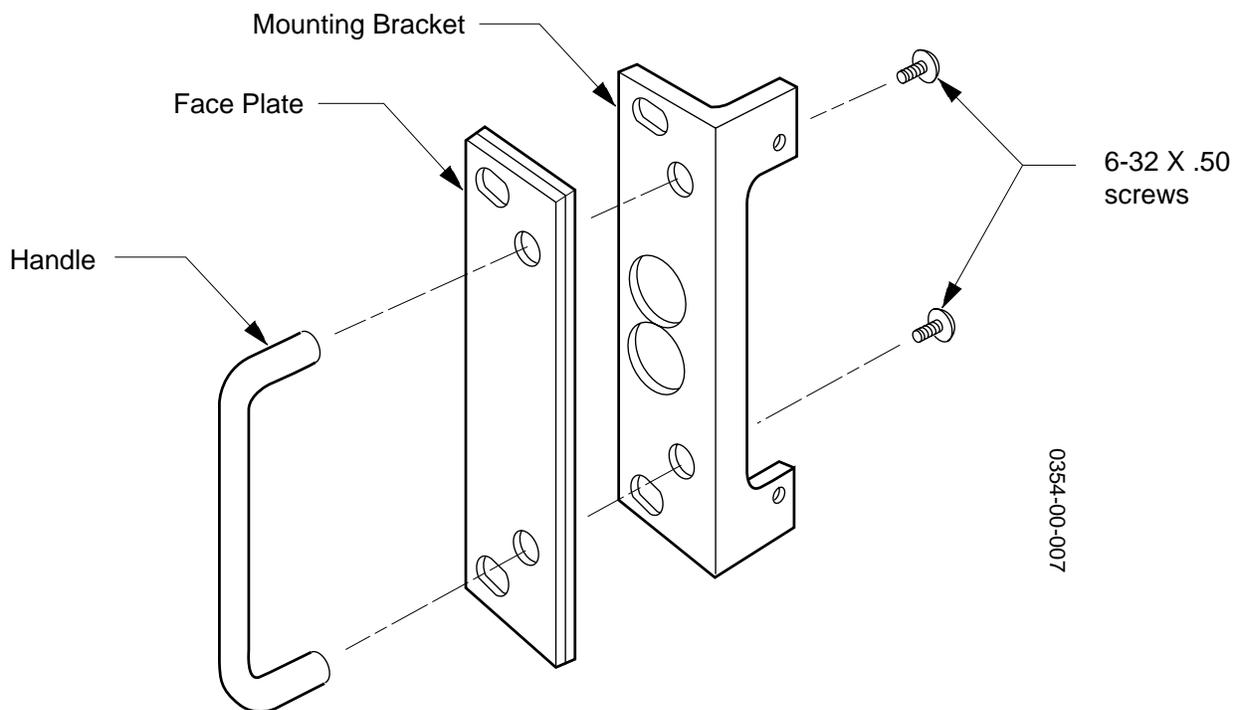
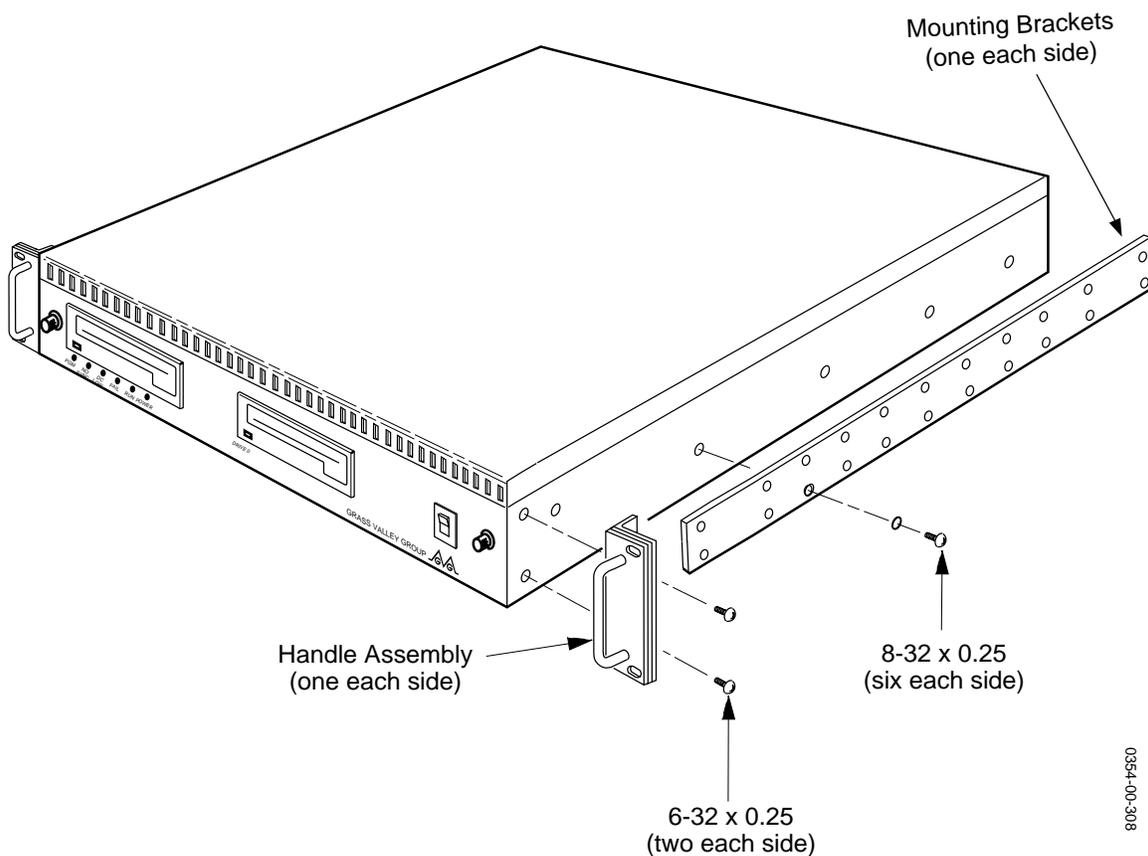
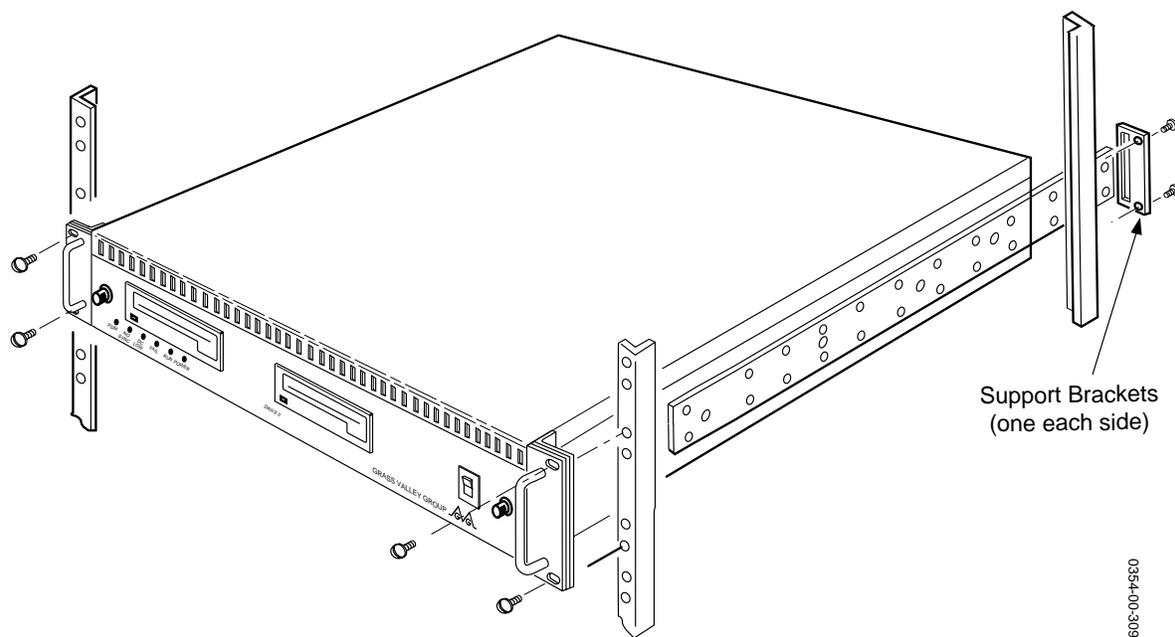

Figure 3-2. Computing Chassis Handle Installation
Figure 3-3. Handle & Mounting Bracket Attachment
Figure 3-4. Installing The Computing Chassis Into The Equipment Rack
If the Computing Chassis is to be mounted in an equipment rack, mounting hardware must first be attached to the unit. Hardware consists of handles, mounting brackets and support brackets. Figure 3-2 illustrates handle assembly which must be done before attachment to the Chassis. Figure 3-3 illustrates attachment of the handles and mounting brackets to the Chassis. Figure 3-4 shows installation of the Chassis into the rack.
To attach the hardware and install the Computing Chassis into the equipment rack, refer to Figure 3-2, 3-3, and 3-4 and proceed as follows:
1. Position the Handle, Face Plate, and Mounting Bracket together as shown in Figure 3-2.
4. Position one Handle against the chassis and attach it with two of the provided 6-32 x .25 screws as shown in Figure 3-3.
6. Position one of the mounting brackets at the side of the unit as shown in Figure 3-3 and attach it with six of the provided 8-32 x.25 screws.
8. Attach one of the support brackets to the back of the equipment rack at the height for the Chassis when installed in the rack. (See Figure 3-4.)